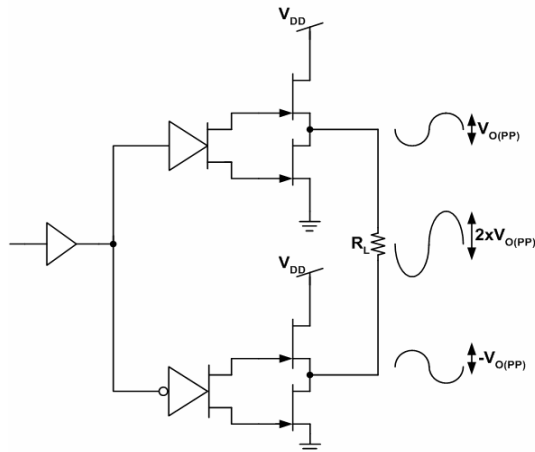
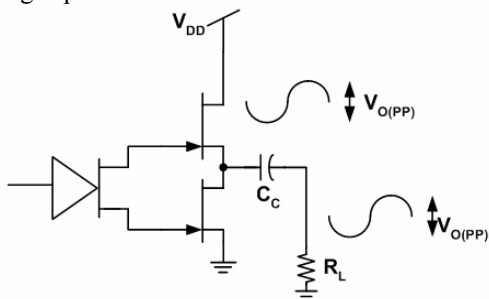

Figure 56. Bridge-Tied Load Configuration
Figure 57. Single-Ended Configuration and Frequency Response
Figure 56 show a linear audio power amplifier (APA) in a BTL configuration. The EUA 5202 BTL amplifier consists of two linear amplifiers driving both ends of the load. There are several potential benefits to this differential drive configuration, but initially consider power to the load. The differential drive to the speaker means that as one side is slewing up, the other side is slewing down, and vice versa. This in effect doubles the voltage swing on the load as compared to a ground referenced load. Plugging 2 × VO(PP) into the power equation, where voltage is squared, yields 4 × the output power from the same supply rail and load impedance (see equation 7)
In a typical computer sound channel operating at 5V, bridging raises the power into an 8-Ω speaker from a singled -ended (SE, ground reference) limit of 250 mW to 1W. In sound power that is a 6-dB improvement—which is loudness that can be heard. In addition to increased power there are frequency response concerns. Consider the single-supply SE configuration shown in Figure 57. A coupling capacitor is required to block the dc offset voltage from reaching the load. These capacitors can be quite large (approximately 33μF to 1000μF) so they tend to be expensive, heavy, occupy valuable PCB area, and have the additional drawback of limiting low-frequency performance of the system. This frequency limiting effect is due to the high pass filter network created with the speaker impedance and the coupling capacitance and is calculated with equation 8.
In SE mode (see Figure56 and Figure57), the load is driven from the primary amplifier output for each channel (OUT+, terminals 22 and 3).